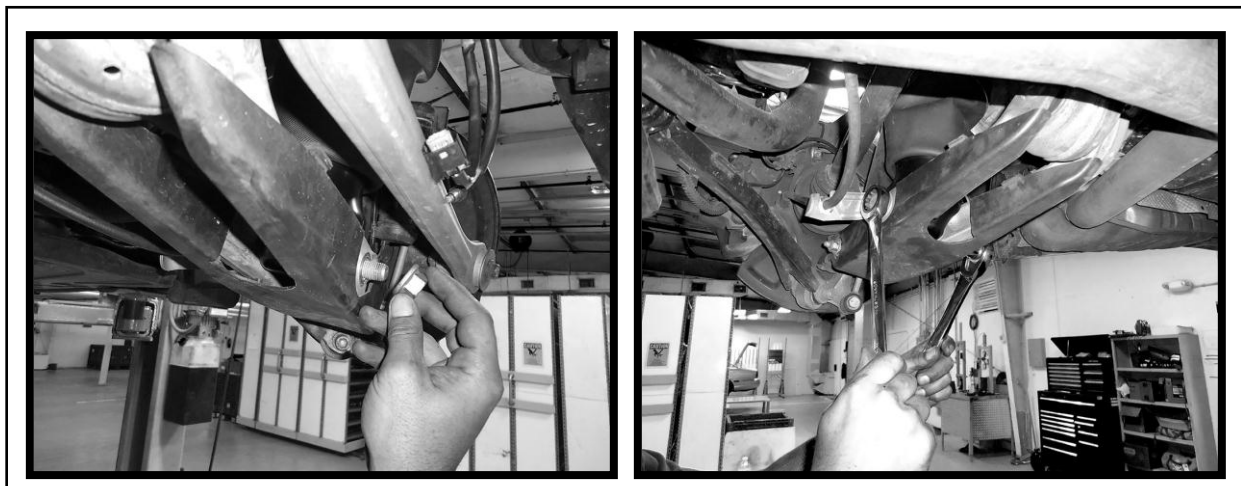

FIGURE 10-13
4.0 INSTALL, AND TIGHTEN MOUNTING BOLT. (FIGURE 10-13)